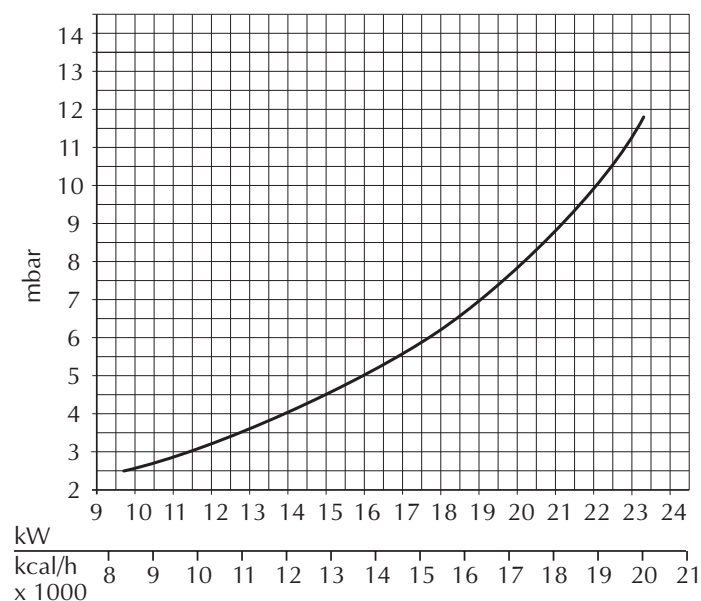

Fig. 4
N.B. - The gas pressures at the burner and gas flows during the central heating phase given in the table refer to nominal boiler output. To reduce this output (where necessary), gas pressure must be reduced until the required output level is reached (see figures 4 and 5).
To adjust boiler heat input (thus also regulating heat output to the central heating water) simply adjust the main burner via the electronic control board (fig. 4 and 5).